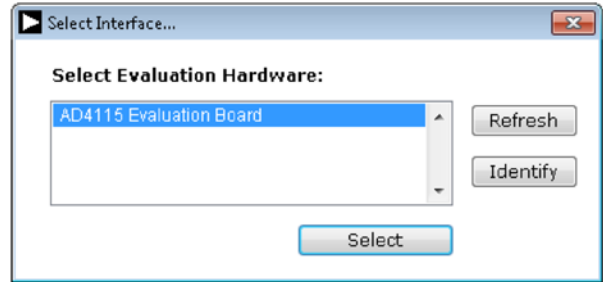
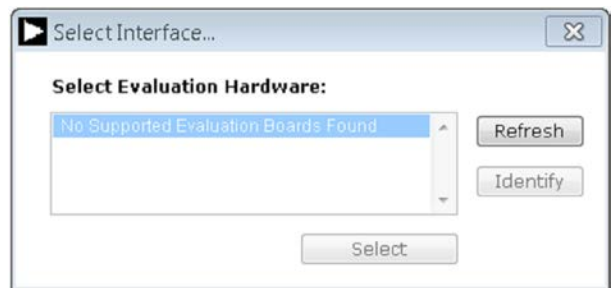

Figure 13. **AD4115** Evaluation Board Selection
Figure 14. Evaluation Board Selection, No Board Connected
1. From the **Start** menu, click **Programs > Analog Devices > AD411x Eval+ > AD411x Eval+.exe**. The dialog box shown in Figure 13 appears. Select **AD4115 Evaluation Board** and the main window of the software shown in Figure 16 appears.
2. If the EVAL-AD4115SDZ is not connected to the USB port via the **SDP** when the software is launched, the software displays the dialog box shown in Figure 14. Connect the EVAL-AD4115SDZ to the USB port of the PC, wait a few seconds, then click **Refresh**, and the dialog box shown in Figure 13 then appears.
After selecting AD4115 Evaluation Board, shown in Figure 13, the main window of the evaluation software displays, as shown in Figure 16. The Configuration tab shows the control buttons and analysis indicators of the AD411x Eval+ software. The main window of the AD411x Eval+ software in quick start mode contains four tabs: Configuration, Voltage Waveform, Noise Table, and Histogram.